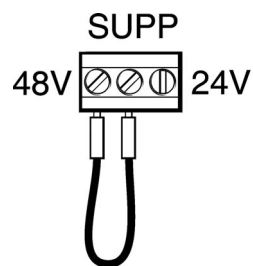

Figure 11 – Identification of the motor voltage configuration terminal
4. Changing the motor voltage is achieved by positioning the link wire that is joining the “SUPP” terminal (supply to PCB) to the “48V” terminal, such that the link wire now joins the “SUPP” and the “24V” terminals. Refer to figure 11.